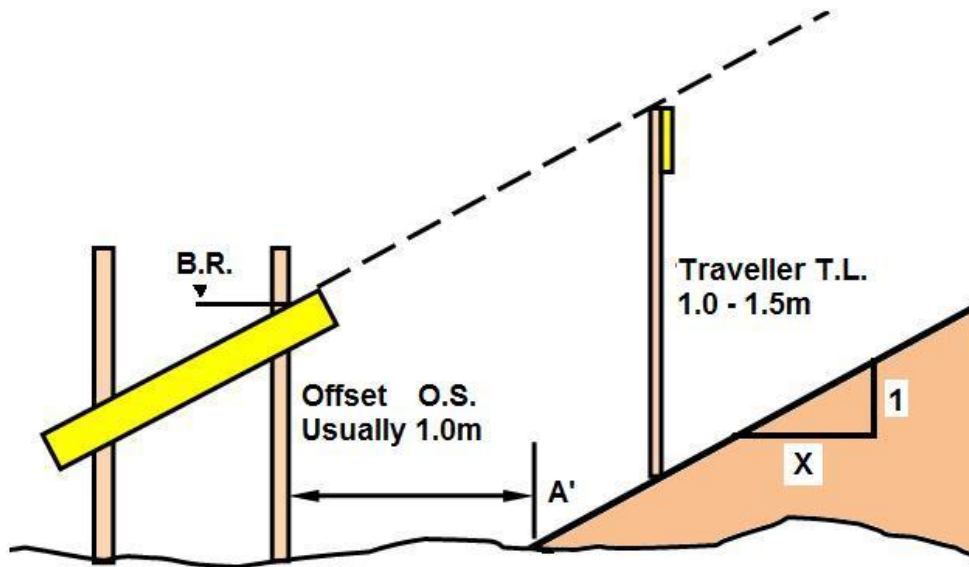

Figure 8: Batter rails for an embankment
Batter boards or rails, consist of two stakes with a board between set at the correct gradient for the slope. They can be used for either a cutting or an embankment, the process remains much the same, and figure 8 shows a typical arrangement for an embankment.
7. Now the position and level of the rail for the cutting/embankment can be established using the following formula with reference to figure 8: -